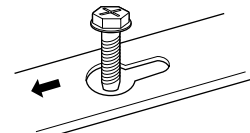
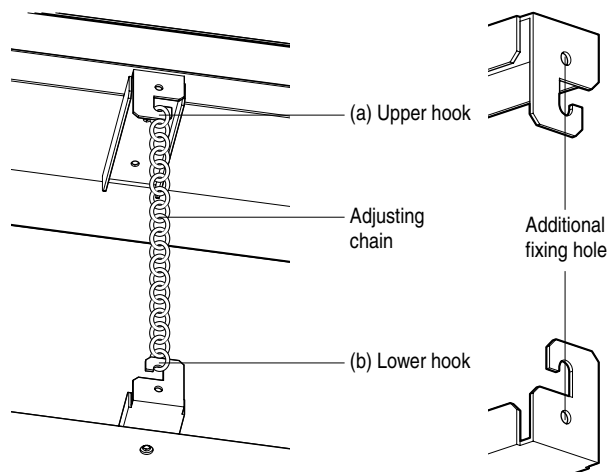

Fig.2
Fig.3
- ① Tighten two fixing bolts for air suction canvas to the indoor unit.
- ② Fit the air suction canvas over the fixing bolts and slide the direction of the arrow in Fig.2 to hang the air suction canvas on the indoor unit.
- ③ Fit the remaining two fixing bolts and tighten all four fixing bolts until the seal is about 3~5mm thick.
- ① Attach the suction outer grille. For details, see the installation provided with the suction grille.
- ② Hook the four adjusting chain over upper part of suction canvas in Fig.3 (a).
- ③ Check the suitable point in the adjusting chain that makes close the gap between the ceiling surface and the suction grille.
- ④ Hook the four adjusting chain with checked point over lower part of suction canvas in Fig.3 (b), cut any extra adjusting chain with the nippers.